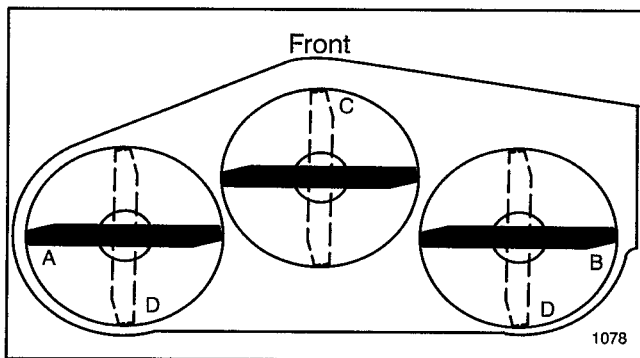
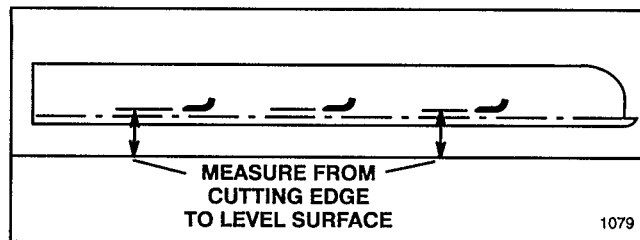

Figure 26
Figure 27
1. Position blade(s) front-to-rear (Fig. 26). Measure at "C" and "D" locations (Fig. 26), from level surface to the cutting edge of blade(s) (Fig. 27).
1. Position blade(s) side-to-side (Fig. 26). Measure at "A" and "B" locations (Fig. 26), from level surface to the cutting edge of blade(s) (Fig. 27).